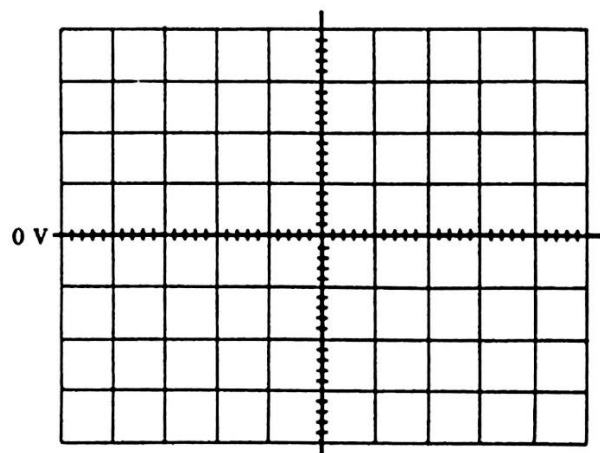

Figure 3.3b
7. Sketch the displayed voltage transfer characteristics of your circuit on Fig. 3.3b.